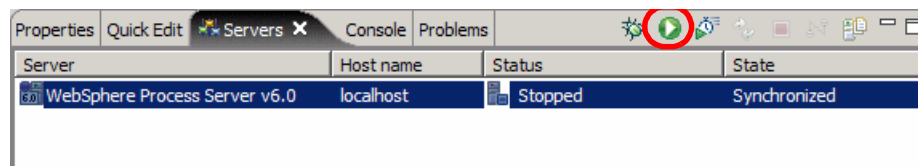

Figure 9-4 Start WebSphere Process Server v6.0
- ▶ In the Web perspective, Servers view, click  to start the server (Figure 9-4). Then wait until the server is started and the Console view shows the server console output.